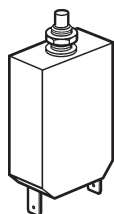

Fig. 23
** **Note!** The wiring diagrams as specified in these instructions, fig. 23 and 24, show the preferred protection of the Control Unit and the Control Panel. If the boat does not have a separate fuse box, Volvo Penta resettable 8A breaker may be used. Breaker 966689 is not explosion proof and must therefore not be used in gasoline engine rooms.
If a suitable fuse box is not available in the boat, Volvo Penta resettable 8A breaker, part No 966689, can be used for protection of the installation. Breaker 966689 is not explosion proof and must therefore not be used in gasoline engine rooms. **See fig. 23** as well as the section "Component guide".